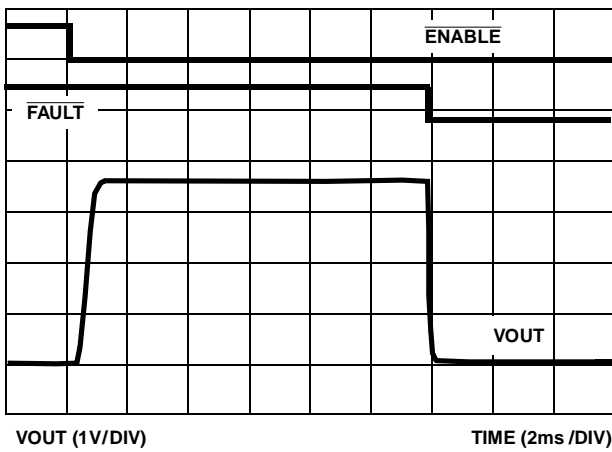

FIGURE 10. ISL6119L TURN-ON INTO 1.5A OCS
During initial turn-on the ISL6119 prevents nuisance faults being reported to the system controller by blanking the fault signal for 12ms. This blanking eliminates the need for external RC filters necessary for other vendor products that assert a fault signal upon initial turn-on into a temporary high current condition. See Figures 10 through 12 for waveform examples.
An overcurrent (OC) condition can be invoked on both the ISL6119 and the PPTC by driving TP11 to +6V, causing SW1 to close and a nominal 1.5A load is imposed. This represents a current over load to the ISL6119 and is thus quickly current regulated to the 1A limit. If the OC duration extends beyond the nominal 12ms of the internal ISL6119L timer then the output is latched off and the fault output is asserted by being pulled low turning on the appropriate FAULT LED, see Figure 10. (Please note: the labeling for FAULT-1 and FAULT-2 is reversed). The eval board is designed to only invoke an OC condition on channel 2 (TP4) so that a channel to channel